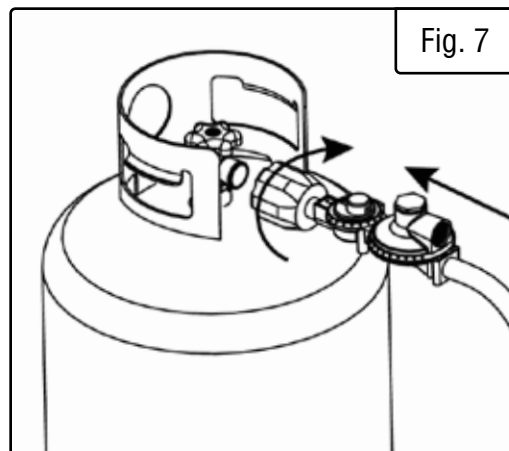

Fig. 7
2. With the LPG tank valve closed, attach the LPG regulator connecting hose to the valve. Turn the plastic coupling from the hose right (clockwise) to tighten hose assembly onto the LPG tank (Fig. 7).